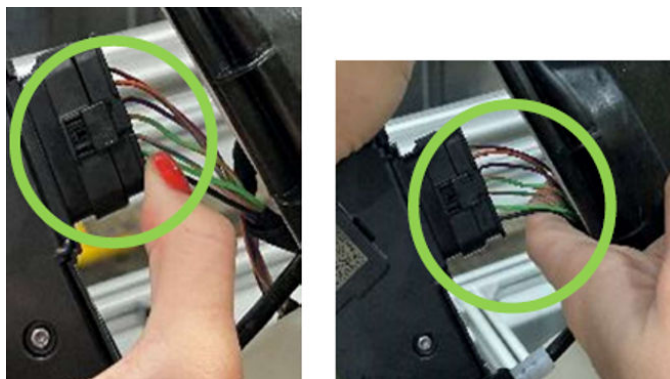

Fig. 37
41. Connect the wire harness to the latch connector and confirm it is fully seated Fig. 37.